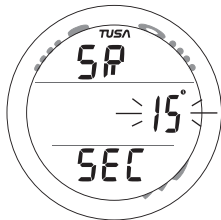

Fig. 55 - SET SAMPLING RATE
**SET SAMPLING RATE**, information includes (Fig. 55):